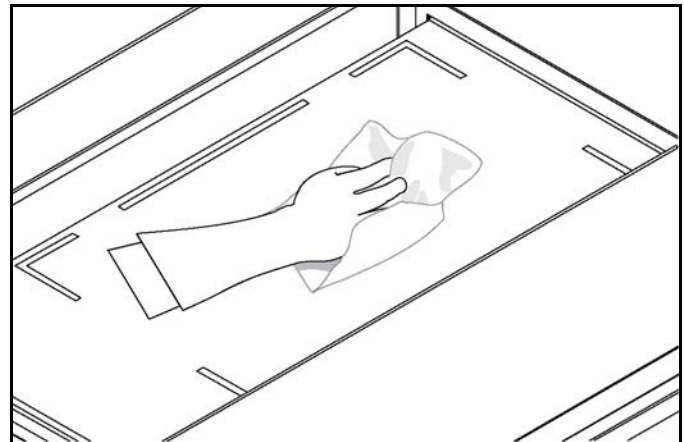

Figure-34
2. Clean the grill with a sanitizer-soaked grill cloth to remove any debris on the grill. See Figure-34.